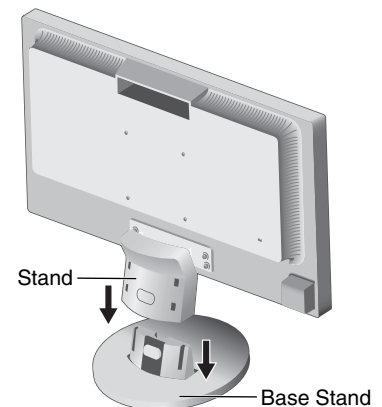

Figure S.1
1. Attach the Base Stand to the Stand. The locking tabs on the Base Stand should fit into the hole on the Stand (**Figure S.1**).